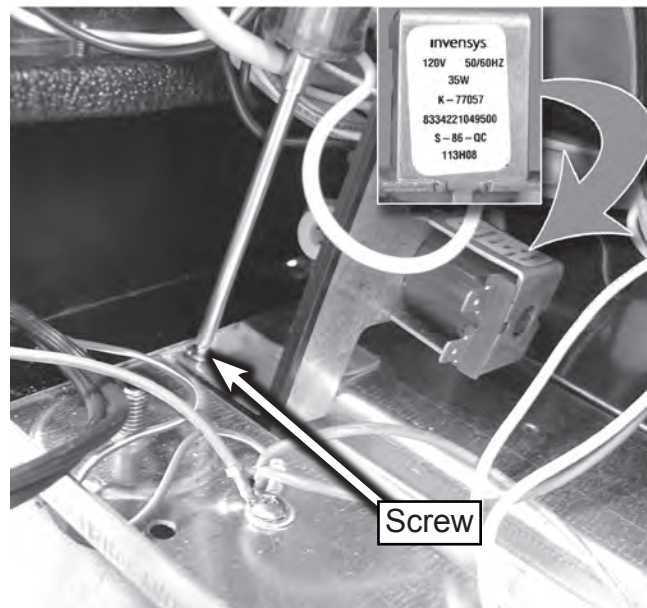

Figure 4
4. Remove the screw securing the water valve bracket to the cabinet, see figure 4.